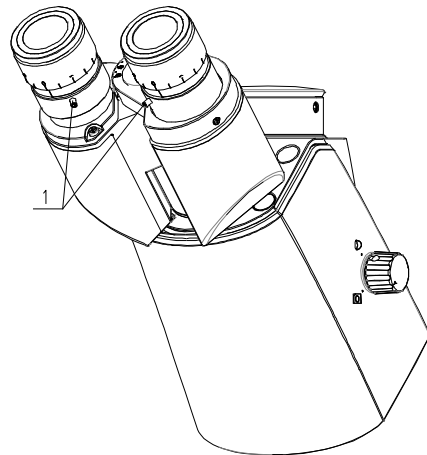

Fig.11 Locking Eyepiece
- ① (Fig. 11). If want to change eyepiece ,must unscrew it at first.